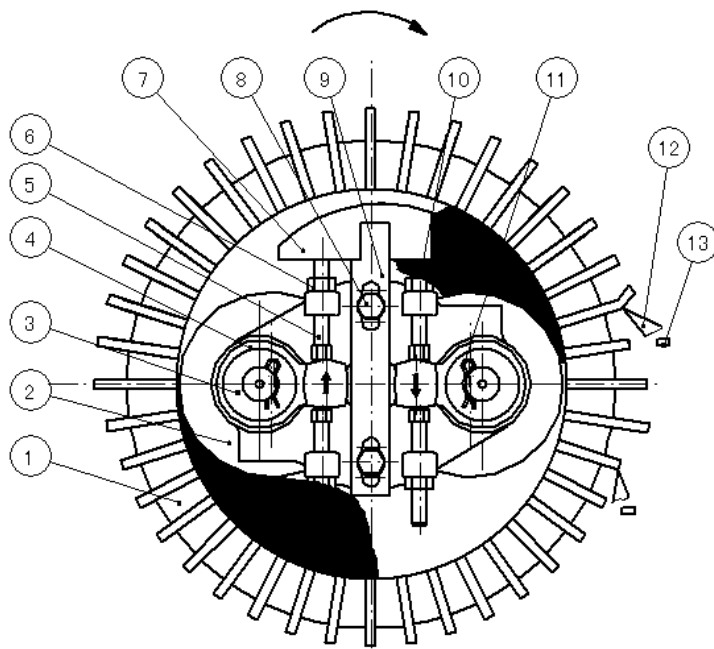

Figure 11 PELLET CHAMBER WORKING PRINCIPLE
4.1.5 Steam should be injected in when the machine is working. See Figure 11 and Table 2 for the steam piping system. The steam is generated by the boiler. 2" galvanized pipe can be used as the steam pipe connecting with the conditioner. Moisture separator should be installed in the steam piping line to prevent the condensate from entering the conditioner. Relief valve must be installed to ensure that the steam pressure is not too high but stable. Steam is required to be supersaturated and with high temperature and less moisture content.